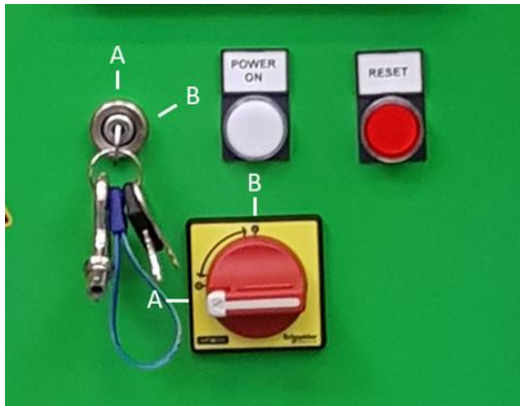
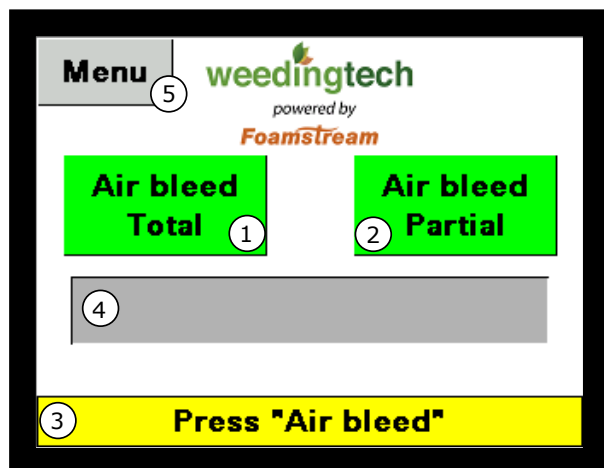

Figure 11 - Details of the switches of the front panel
Figure 12 - Start-up screen of the PLC
- ✓ Start the generator by turning the key in a clockwise direction to position 'B', release to position 'A' when the engine starts (see Figure 11)
- ✓ Turn the isolator switch to position 'B' (see Figure 11), the PLC screen should illuminate (see Figure 12)
- ✓ Press the 'RESET' button (red button on the front panel, see Figure 5), the 'FAULT' indicator goes out and you should see the screen represented in Figure 12
- ✓ Wait a few seconds before requesting air bleed: buttons '1' or '2' in Figure 12